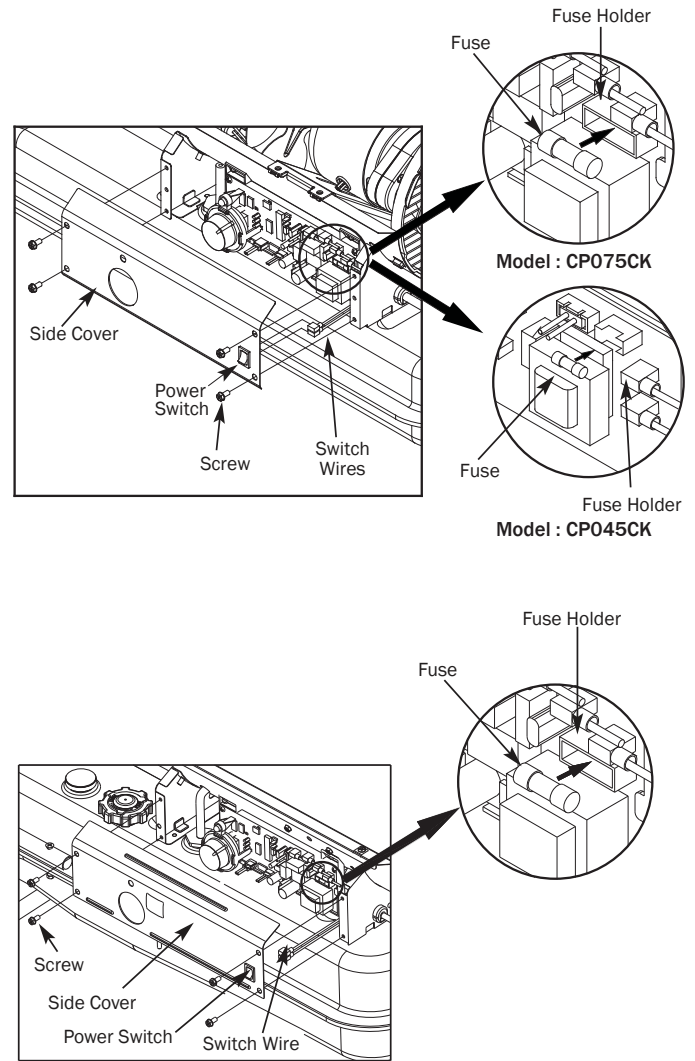

Figure 20 – Replacing Fuse
- Remove fuse from fuse holder (See Figure 20).